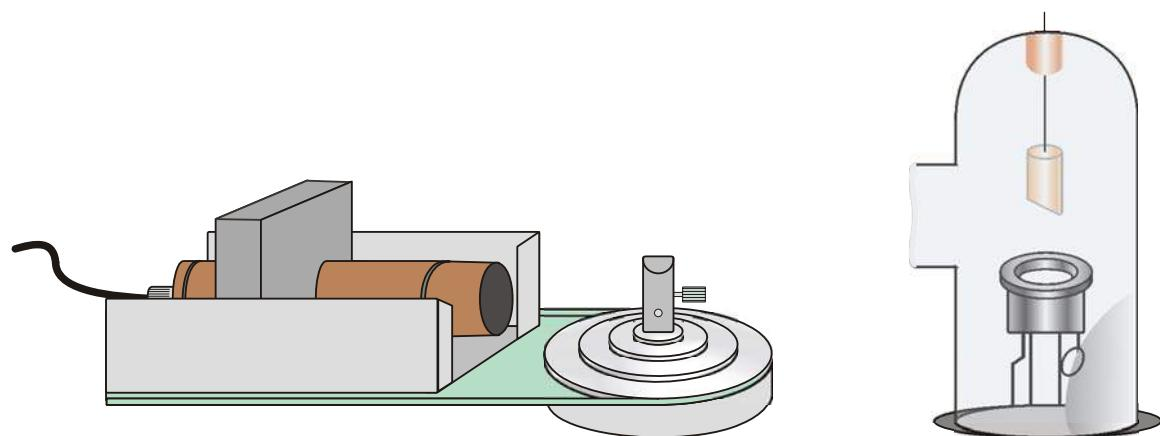

Fig. 3 Inserting the Geiger-Müller tube onto the measuring arm
- Slot the tube holder onto the slide holder of the measuring arm and secure it with the spring clips. (see Fig. 3)